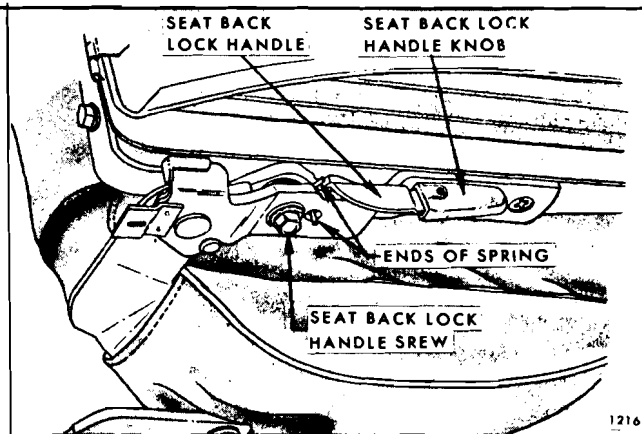

Fig. 15-90—Seat Back Lock (Vista Cruiser and Sport Wagon Styles)
2. Install lock handle, bushing and spring into position between seat back panel and outer linkage making sure end of spring is engaged in hole in outer link (Fig. 15-90).